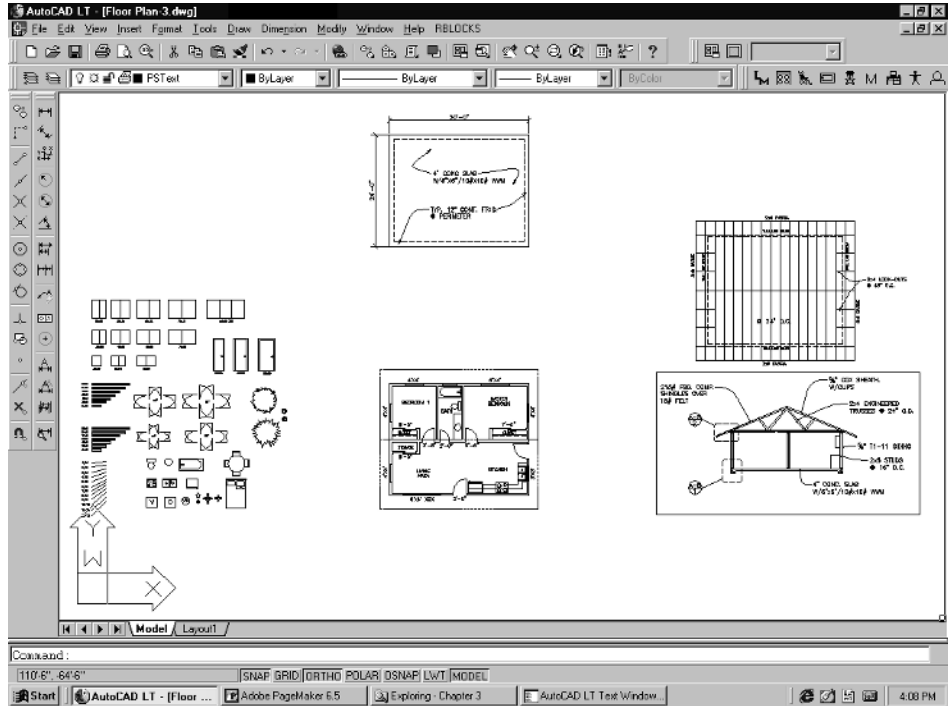

Figure 4-5
4. As soon as you pick point B, the floor plan etc., will move to the right. Do the same thing to each of the other elements, moving them away from the floor plan so that you have the space you need to draw the elevations. See Figure 4-5.